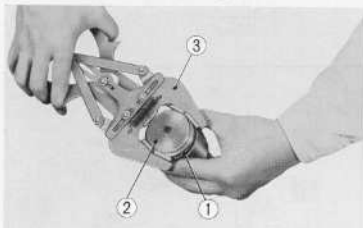

Fig. 3.50 Removing the piston ring
- Remove the piston rings ① from the piston ② by using a ring removing tool (special tool ③). If no tool is available, the rings may also be removed by hand, by spreading the ring at the opening with both hands, the ring should not be twisted. (Fig. 3.50)